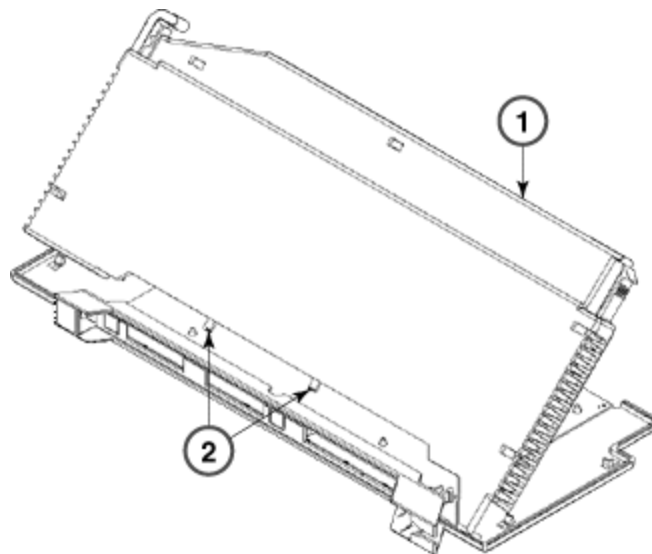

Figure 8-2. Attaching the Right Housing
3. Insert the two alignment tabs on the right housing behind the faceplate (see Figure 8-2).